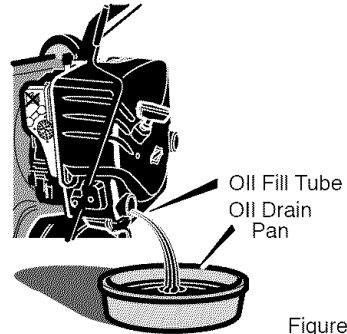

Figure 10
2. Put an **oil drain pan** under the **oil fill tube** (See Figure 10).